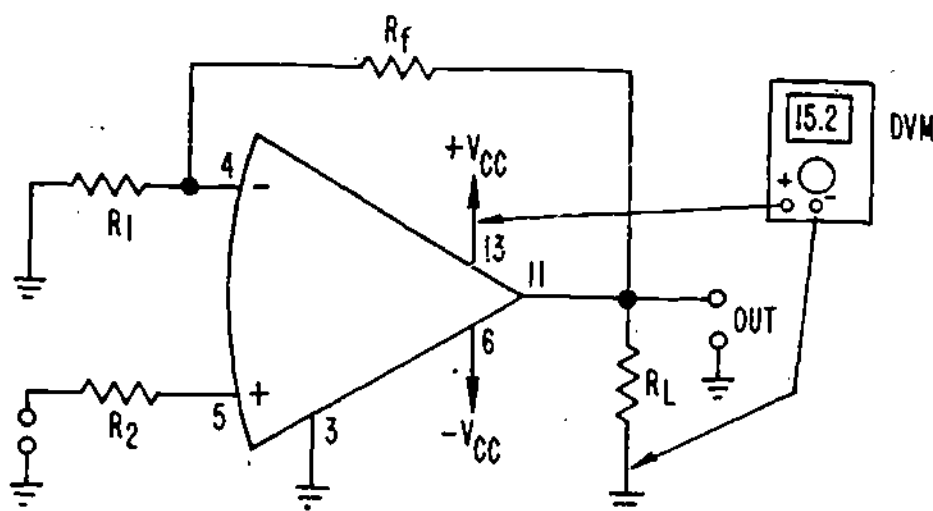

Figure 16
16. Once the faulty stage is isolated, the next step is to check DC supply voltages at the IC pins as shown in Figure 16.
IC DC supply voltages range between 5 and 30 volts. IC opamps require a positive (V_{CC} or V_+) and a negative ($-V_{CC}$ or V_-) power supply voltage to operate (see Figure 16). The circuit schematic will usually indicate the voltages and pin numbers where the voltages are applied. Although a digital voltmeter (DVM) is shown in Figure 16, other types of voltmeters may be used (VOM, VTVM, etc.).